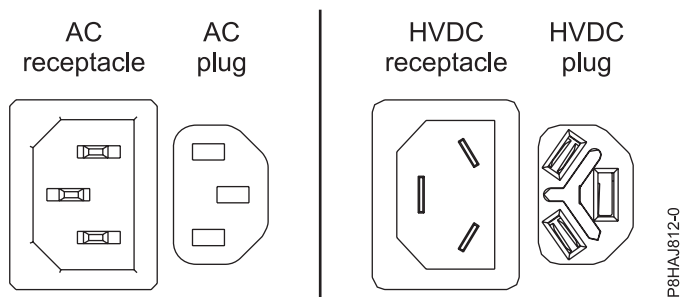
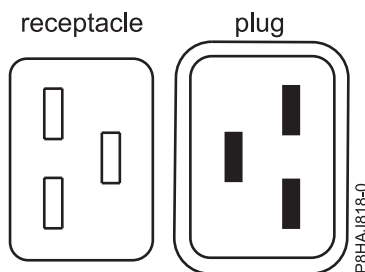
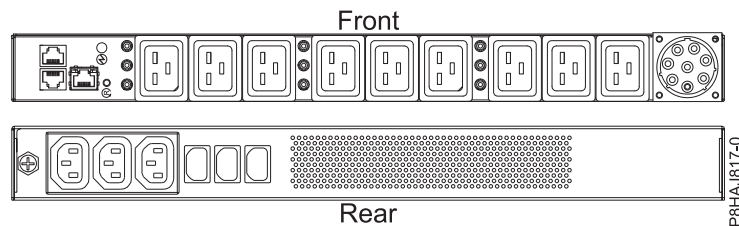

Figure 31. AC and HVDC connectors
Figure 32. Connectors for the 8408-44E system
Figure 33. PDU for the 8408-44E system
- The power cord is fastened to the system using the hook-and-loop fastener (A). If you are placing the system in a service position after disconnecting the power cords, then ensure that you unstrap the fastener.
Figure 31 shows the supported alternate current (AC) and high voltage direct current (HVDC) connectors. Figure 32 and Figure 33 show the supported connectors and power distribution unit (PDU) for 8408-44E.